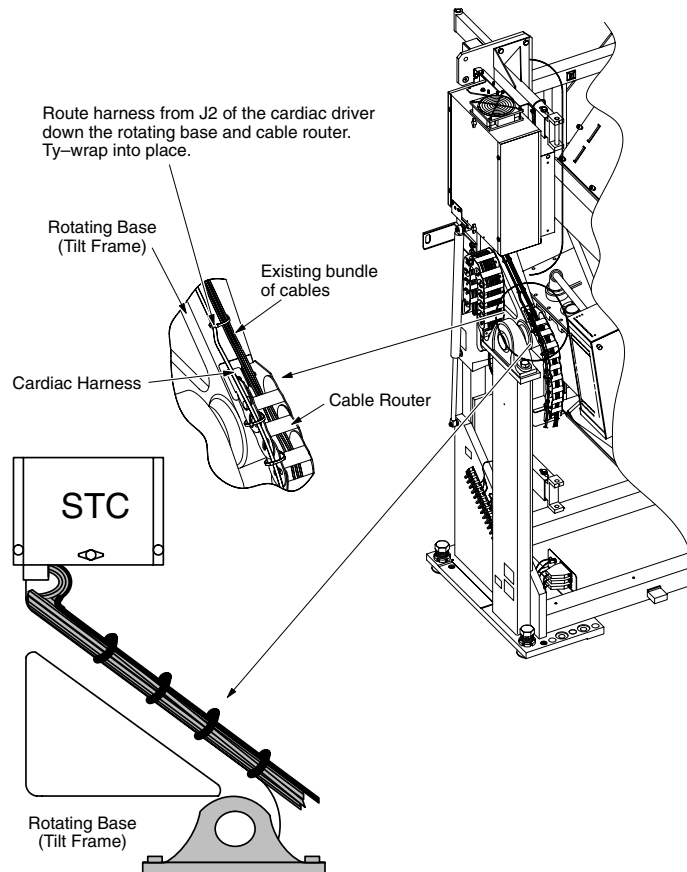

Figure 3-3 Route the Cardiac Harness Down the Rotating Base
- 7.) Route the cardiac harness down the rotating base and cable router (refer to Figure 3-3).